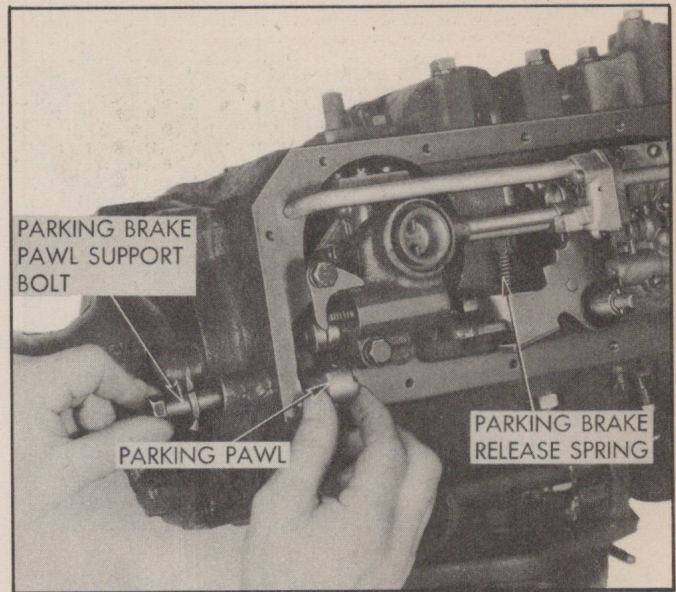

Fig. 114—Positioning Parking Pawl
2. Remove parking brake pawl support bolt ($\frac{7}{16}$ " socket) from rear of case and position anchor down in case as far as it will go (Fig. 114). (Pawl cannot be removed at this time.)
6. Unhook parking brake release spring from pin assembly and inner oil delivery pipe (Fig. 114).